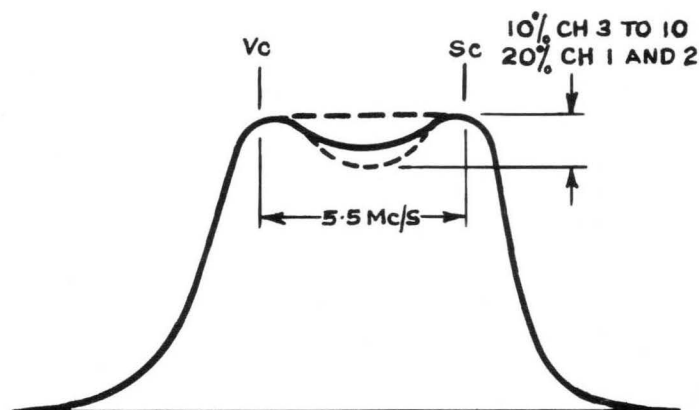

Fig. 17.
6. Adjust the two RF trimmers C1 and C7 and the converter trimmer C12 (all located on the top of the RF tuner) for the curve as shown in Fig. 17. with maximum gain.
7. Adjust the sweep and signal generators progressively for each of the remaining channels 10, 8, 7 etc. Observe the response and check the position of the markers. The curves for all channels should be within the limits shown by the curves in Fig. 17. If a particular channel does not fall within these limits, it is possible that a compromise can be made by adjusting the RF and converter trimmers as in steps 4, 5 and 6 to improve the channel that is out of limits. The response should then be checked on all other channels to determine the extent to which the other channels were affected by the compromise. (If this method proves unsatisfactory, the tuner should be returned to the factory for attention.)